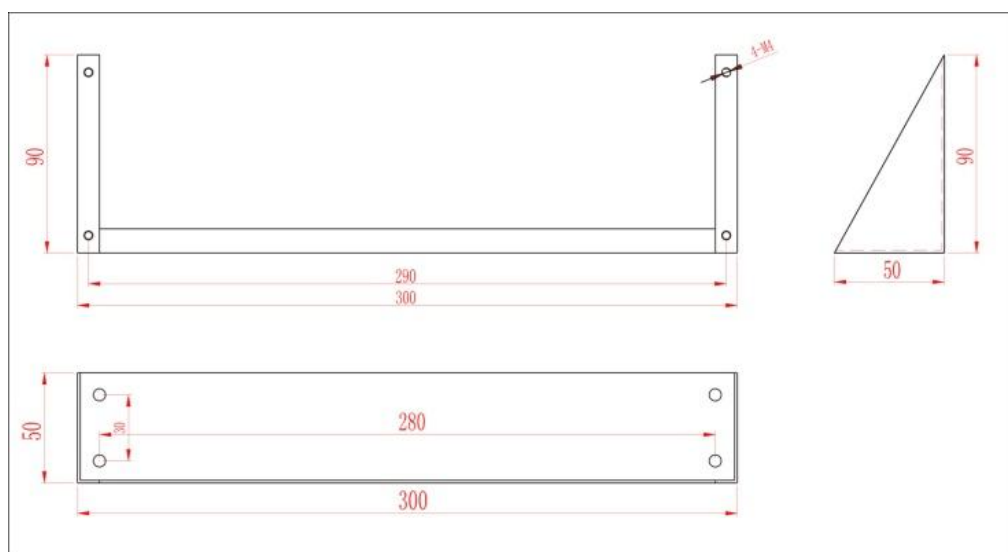

Figure 1-6: Installation size
3、Arc voltage divider: as figure1-6, voltage divider ratio:50:1,non-isolation on voltage divide, the isolation inside of the THC, Arc voltage divider could install in control system cabinet, the cable of it must be use shield cable , and can add the length accordingly.